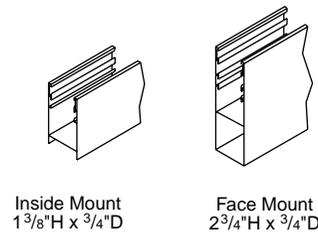

Figure 9
- ⑦ Install sill channel between side channels using appropriate fasteners (see Fig. 9). On some large LightBlocs, the sill channel is replaced by an angle. NOTE: Be sure of a centered and snug fit between side channels.